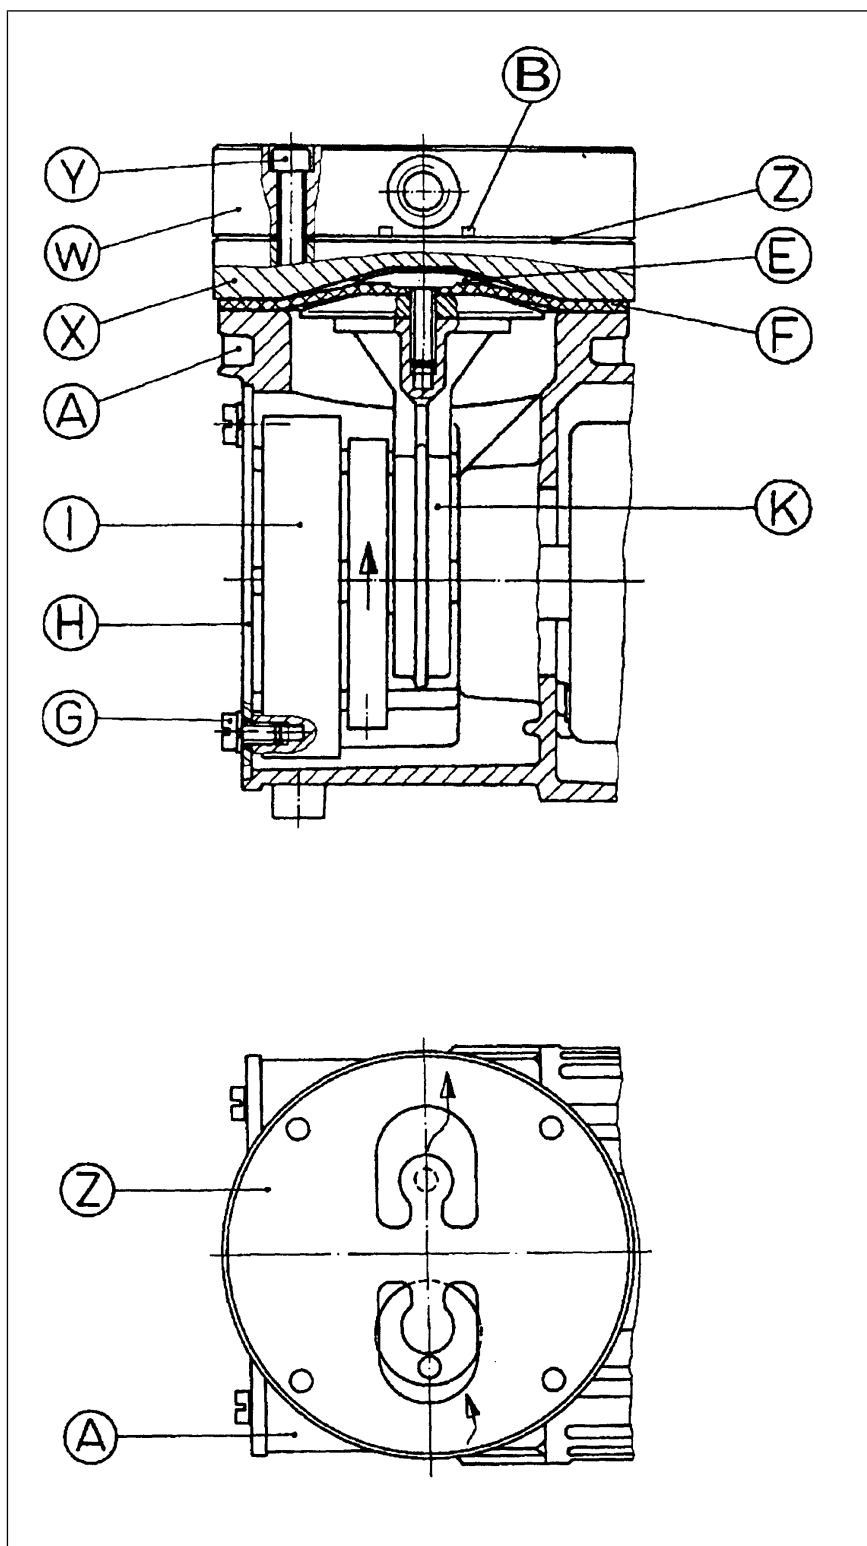

Fig. 6 Pump parts for pump models with smooth heads and valve plate (elastomer, symbolic)
**According to Fig. 6
i The following item numbers refer to Fig. 6.